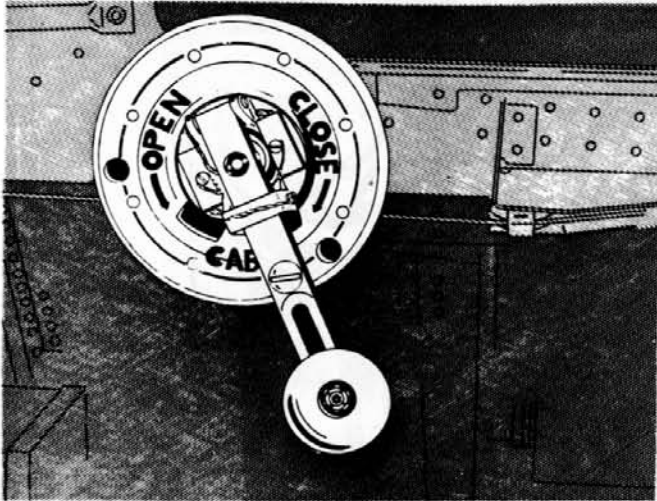

Figure 44 — Gunner's Cabin Crank
(1) **GUNNER'S COCKPIT ENCLOSURE.**—The gunner's cockpit enclosure is operated by a crank and drum assembly on the right hand sill, forward of the seat (see figure 44). Rotation of the crank counterclockwise opens the enclosure; clockwise rotation closes it. This enclosure can be locked in the
open or closed positions by seating the plunger on the arm of the crank in one of the holes provided in the drum, then pushing down on the thumb latch (see figure 44), or the crank.